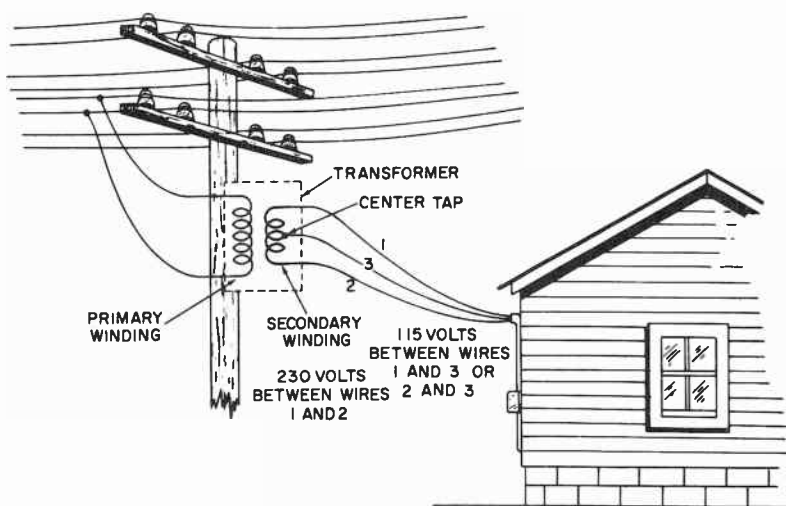

Fig. 3-5. A three-wire, 230-volt connection to the home.
commodate 40 amperes, will leave the insulation on the wire cool. By getting all the current it requires, the range will thus operate at peak efficiency. The current-carrying capacity is adequate to overcome whatever resistance the wire might offer, without wasting current in heating the wire instead of the burners. The 230 volts? The power company ordinarily supplies this 230 volts directly from a transformer located on a utility pole near the home. Contrary to the two-wire service used in earlier days, today most homes have *three* wires feeding the house, as shown in Fig. 3-5. Between the two outside wires (1 and 2), 230 volts are present; the third wire (number 3), called a neutral, is connected to
the center tap on the transformer secondary. In this way, only half the voltage between the two outside wires (1 and 2) appears between the neutral wire (3) and either outside wire. See the point? The electrical contractor, in wiring a house, provides for an electric range and probably an electric water heater—and maybe a few more devices, such as electrical heating—to be connected to wires 1 and 2 in Fig. 3-5, thus providing 230 volts for these devices. The house lighting and appliance outlet circuits are connected across either wires 1 and 3 or 2 and 3, giving 115 volts for small appliances and illumination. Standard practice is to balance the load by connecting approximately half the lighting and appliance circuits between the neutral wire (3) and one outside wire, and the other half between the neutral and other outside wire.